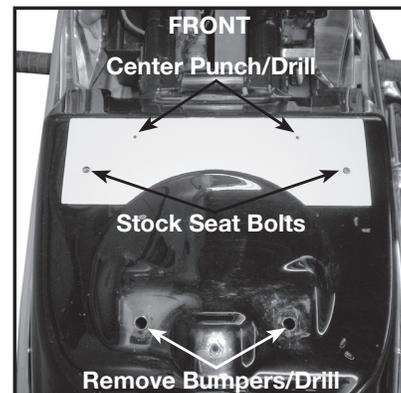

FIG. 1
4. Using your two stock 6mm seat bolts, position template as shown (Fig. 1).
5. Center-punch the two small holes that are 5⁷/₈" on center as shown (Fig. 1).
7. Remove two grommets from rear of fender and drill holes to 3/8" (Fig. 1).